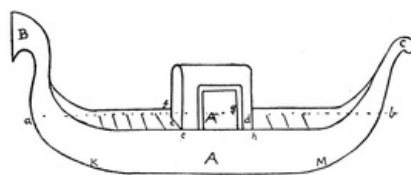

FIG. 208
**Gondolas.** For the cars gondolas may be substituted, as in Fig. 208. These gondolas form simple and effective paper toys, even if not attached to revolving arms.
Draw on stout paper or cardboard and cut out the two sides, A A, as in Fig. 208. The total length of the boat should be 9 inches.
Next draw a line on a piece of paper,  $a'b'$  in Fig. 209, the same length as  $ab$  in Fig. 208. Divide the line into three parts at  $c'$  and  $d'$ .  $a'c'$  represents the length  $ac$  in Fig. 208;  $c'd'$  (not shown to scale), the length of the cabin  $cd$ . If the full length of the gondola is 9 inches, the length  $ab$  will be about  $8\frac{1}{2}$  inches, and the length  $ac$  should be 3 inches; this makes the length of the cabin,  $cd$ , about  $1\frac{3}{4}$  inches. Draw two lines at  $c'$  and  $d'$  at right angles to  $a'b'$ . Make  $ef$  and  $gh$  (Fig. 209) equal to the widest part of the gondola. (If the length of 9 inches has been decided on, the width of the gondola should be  $1\frac{1}{4}$  inches.) Complete triangles  $a'fe$  and  $g'b'h$  as in Fig. 209; draw flanges as in diagram and cut out. Two other triangles exactly the same size with flanges will be required.
Now fasten together the bows, B, and the sterns, C, of the sides, A A (Fig. 208), with secotone, taking care that no gum comes below the line  $ab$ . Gum the triangle  $a'fe$  (Fig. 209) to the sides, A A, as in Fig. 208. Point  $a$  must come at the very end of the sides A A, and the surface of  $a'fe$  forms the deck. Gum triangle  $g'hb'$  to the sides, A A, in the same way (Fig. 208). Now gum the other two triangles to the bottom of the gondola. Their apexes will probably come at about K and M in Fig. 208. The positions of these points can be determined by finding out at what spot the triangle brings the sides A A closely together; try to keep them as far from ends  $a$  and  $b$  as possible.